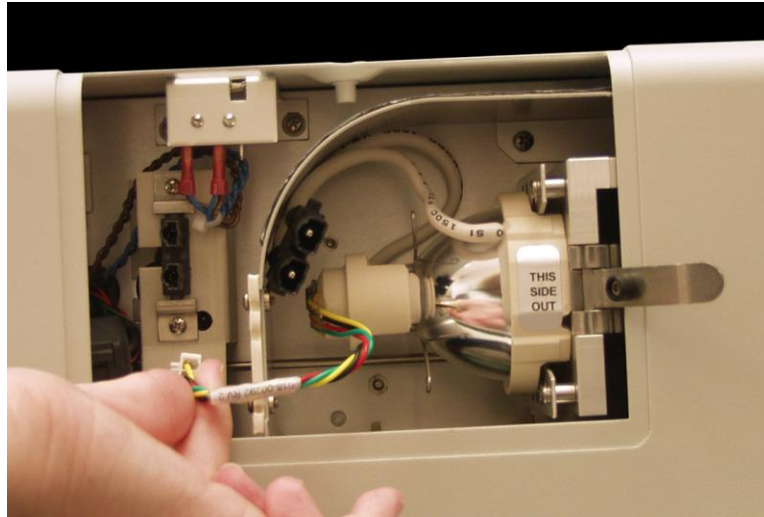

Figure 6 Intelli-Lamp Connection
- 5.1.7 Locate the 4-pin Intelli-Lamp sensor connector (Multi-coloured wiring harness) at the rear of the lamp module and connect it to its mate located on the lamp-housing wall. Reference Figure 6.